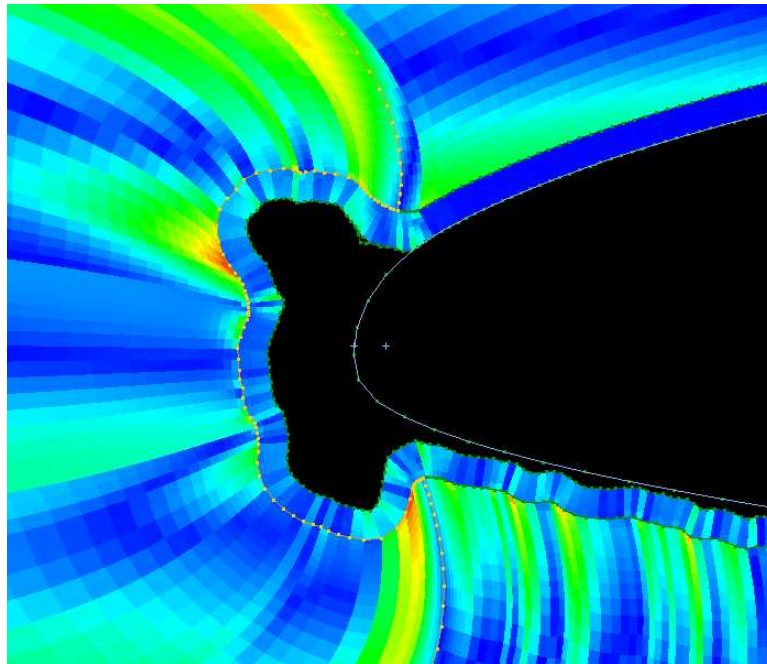

Figure 25. Grid cells colored by orthogonality; grid lines turned off.
- You may find it easier to see the colors of individual cells if you turn off display of the grid lines. From the main menu select **View→Show→Grid** to turn display of the grid off and on. The graphics window should look similar to Figure 25.